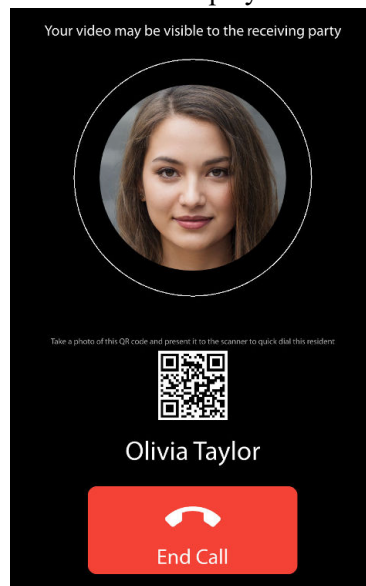

Figure 29. Call a resident
2. The TX3-T10 displays a screen like the one in figure 29.